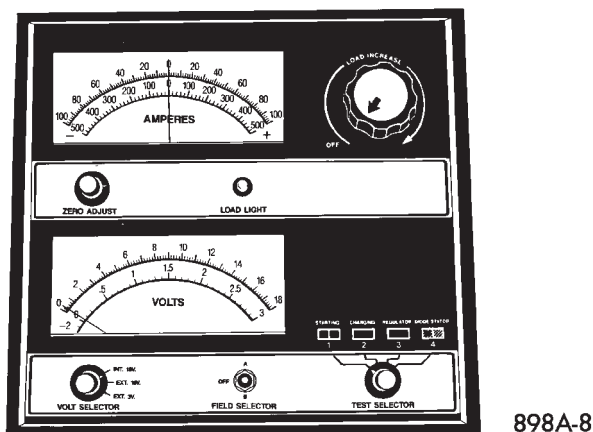
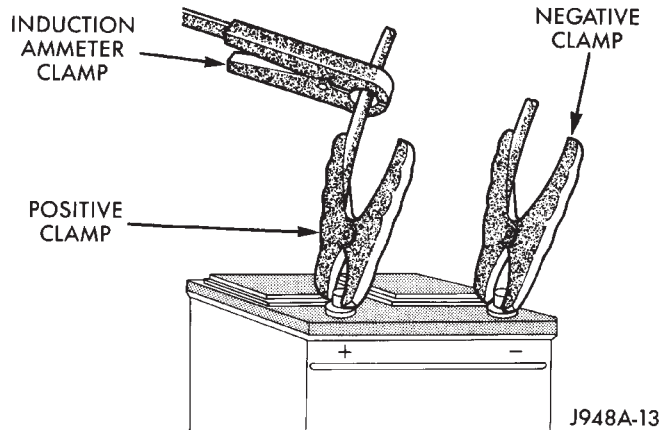

Fig. 6 Volt-Ammeter-Load Tester - Typical
Fig. 7 Volt-Ammeter-Load Tester Connections - Typical
(1) Disconnect and isolate both battery cables, negative cable first. The battery top and posts should be clean.
(2) Connect a suitable volt-ammeter-load tester (Fig. 6) to the battery posts (Fig. 7). Refer to the operating instructions provided with the tester being used. Check the open-circuit voltage (no load) of the battery. See Open-Circuit Voltage Test in the Diagnosis and Testing section of this group for the procedures. The battery open-circuit voltage must be 12.4 volts or greater.